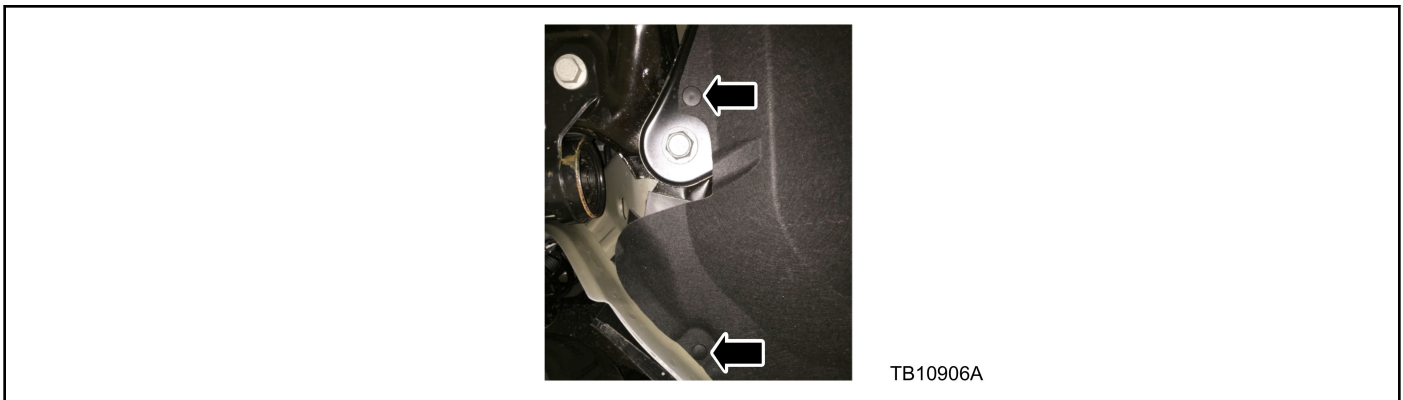

Figure 1 - Article 16-0083
3. Remove and discard the 2 push pins securing the underbody shields for both sides. (Figure 1)